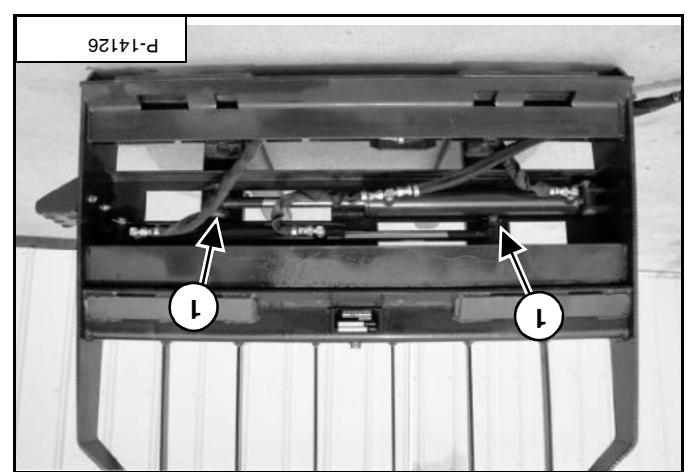

Figure 59
Remove the cotter pins and cylinder pins (item 1) [Figure 59] connecting the forks to the rod ends of the hydraulic cylinders.